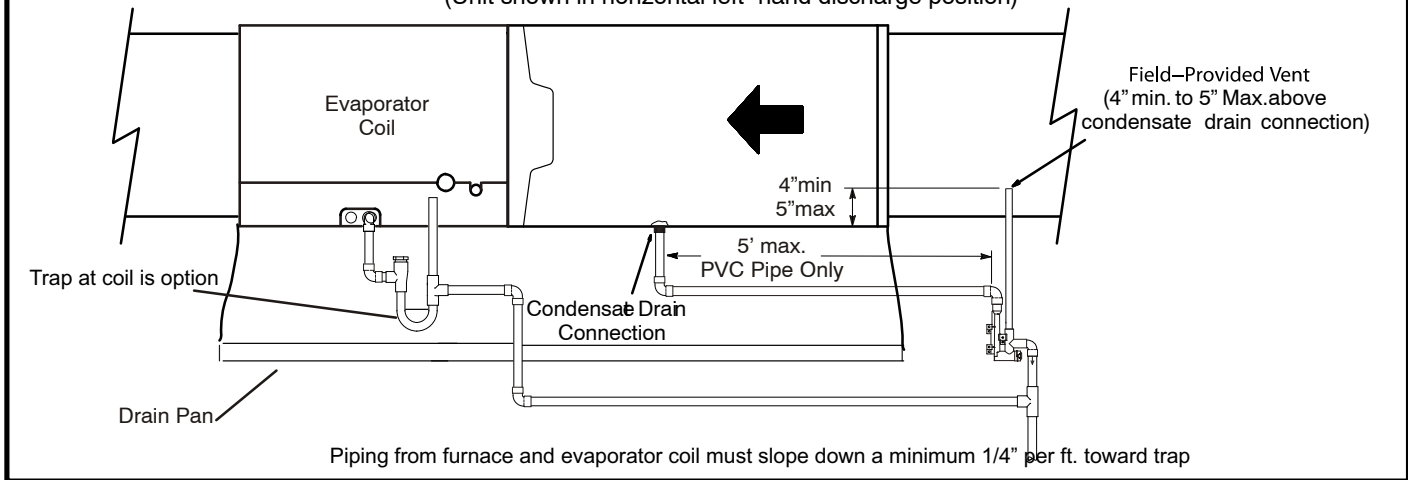

**FIGURE 48**
*Upflow furnace (figure 48)* - In upflow furnace applications the field provided vent must be a minimum 1" to a maximum 2" length above the condensate drain outlet connection. Any length above 2" may result in a flooded heat exchanger if the combined primary drain line were to become restricted.